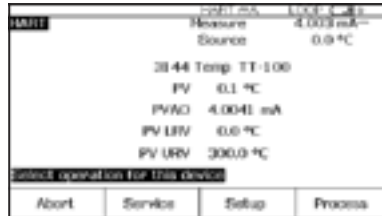

Figure 11.
1. Power on the Fluke 754 Calibrator. Press the red  key followed by the **Loop Power** softkey. Press  to bypass the warning screens and the 754 will display the basic HART information for the 3144 (Figure 11).